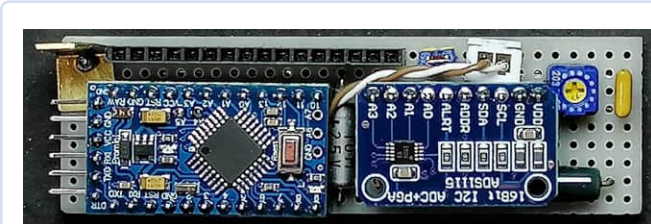

Figure 9: The fully populated DVM board.
**Figure 9** shows the board of the DVM. Unfortunately, pins A4 and A5 of the Arduino Pro Mini's I2C bus are not available on the 12+12 pins and are also not on a 2.54 mm grid, so two wires (white and brown, pictured) and a 2 pin connector were soldered to carry the signals to the ADS1115 module. The 16-pin strip connector seen in the upper left is for the LCD, which is connected at 90 degrees. The multi-hole board is very compact and is also attached to the display with a small brass bracket, visible at the top left of the picture.